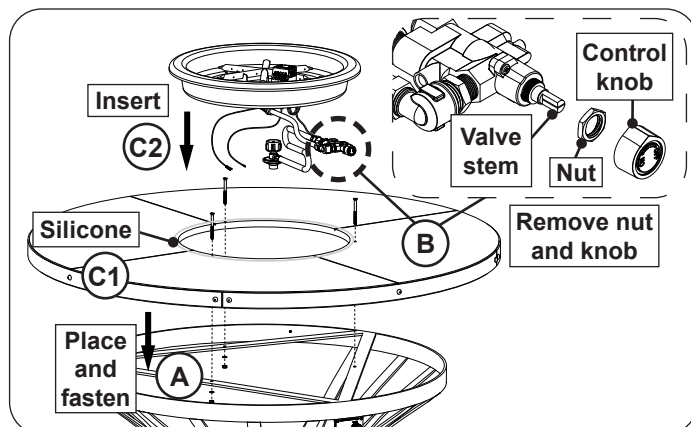

Fig. 37-2 Place top and fasten, place burner
4. **Carefully** place the top on the unit, ensuring that the holes in the top piece align with the holes found in the bracket below (see Fig. 37-2, A).
5. Use a flathead screwdriver and the supplied bolts (3), nuts (3), and washers (3) to fasten the top to the bracket as shown in Fig. 37-2, A.
6. Locate the valve and burner assembly. Remove the control knob. Use a 20mm socket to remove the nut attached to the valve stem. See Fig. 37-2, B.
Then apply silicone along the top, and then drop the valve and burner assembly into the opening in the center of the firetable top as shown in Fig. 37-2, C1 and C2.